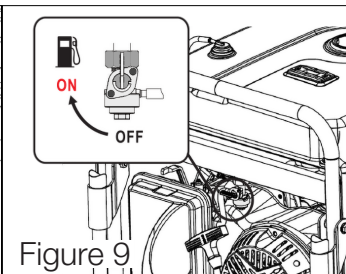

Figure 9
- Turn fuel valve to the “On” position. (See fig. 9)